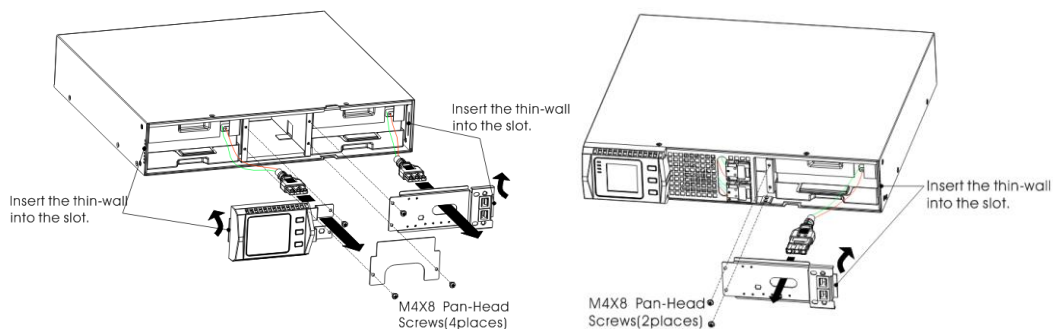

FIG.22 The Installation for baffle of battery pack
3. Remove the connection cables between battery box and UPS. Release the screw of the baffle of the battery pack as the Fig.22 shows and remove the baffle from the left or right.